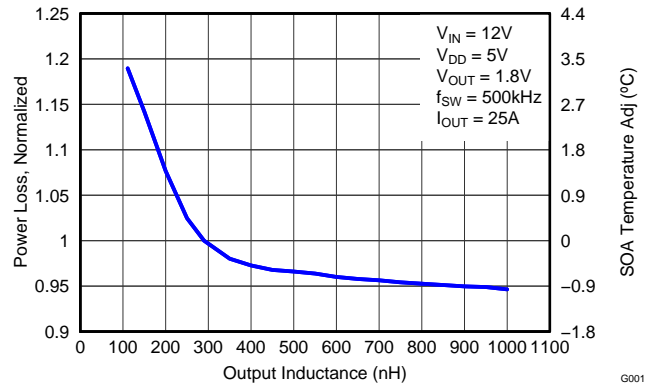

Figure 10. Normalized Power Loss vs Output Inductance
- Normalized Power Loss for output inductor ≈ 1.08 (Figure 10)
- SOA adjustment for output inductor $\approx 1.4^{\circ}C$ (Figure 10)